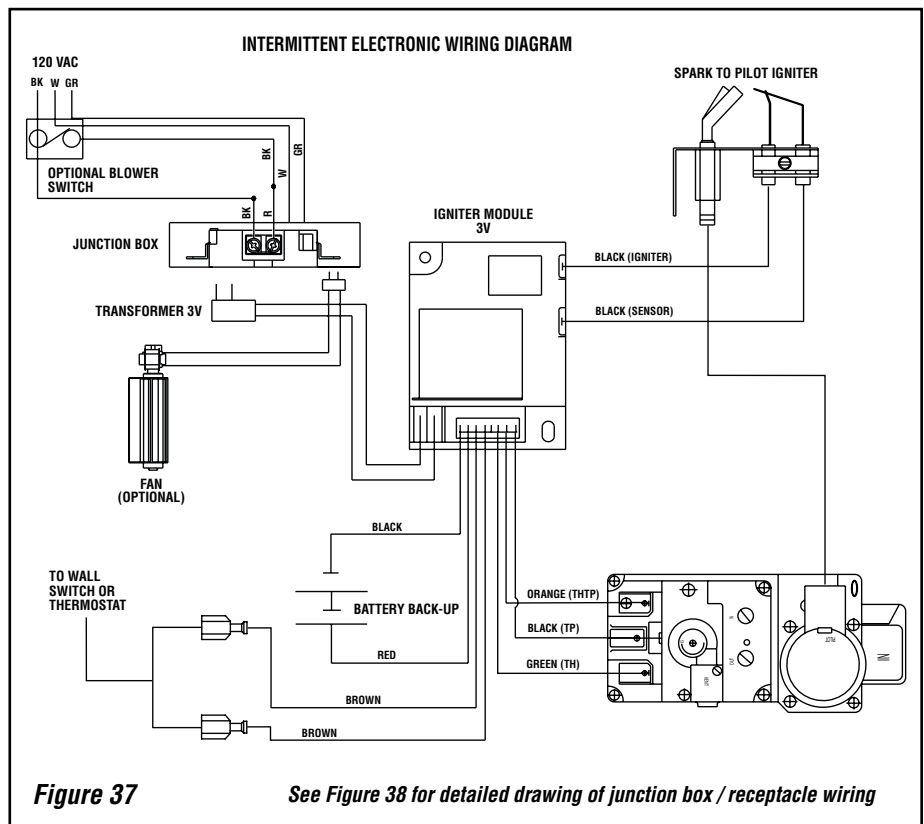

Figure 37
B. Electronic Wiring (See **Figure 37**) –
4. Connect the black power supply wire to the **lower outlet's** red pigtail lead and the white power supply wire to the **common** terminal of the outlet as shown in **Figures 37 & 38**.
8. If an optional control is to be used, wire it in the low voltage circuit as shown in **Figure 37**.